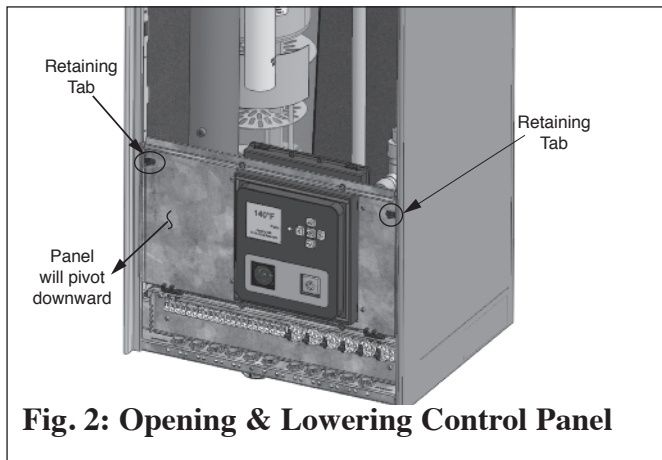

Fig. 2: Opening & Lowering Control Panel
3. Slide left and right tabs of control panel inward and lower control panel. See Fig. 2.